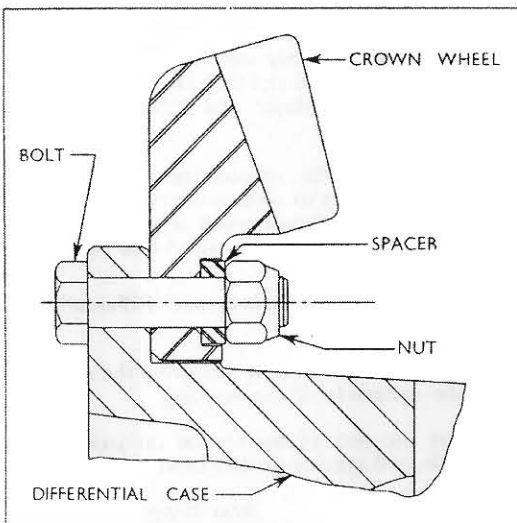

Fig. 2
Special retaining bolts, spacers and self-locking nuts are also available to replace the twelve rivets which have to be removed when separating the differential case from the crown wheel (see Fig. 2).
2. Assemble the crown wheel to differential case with the spacers, bolts and nuts as shown in Fig. 2.